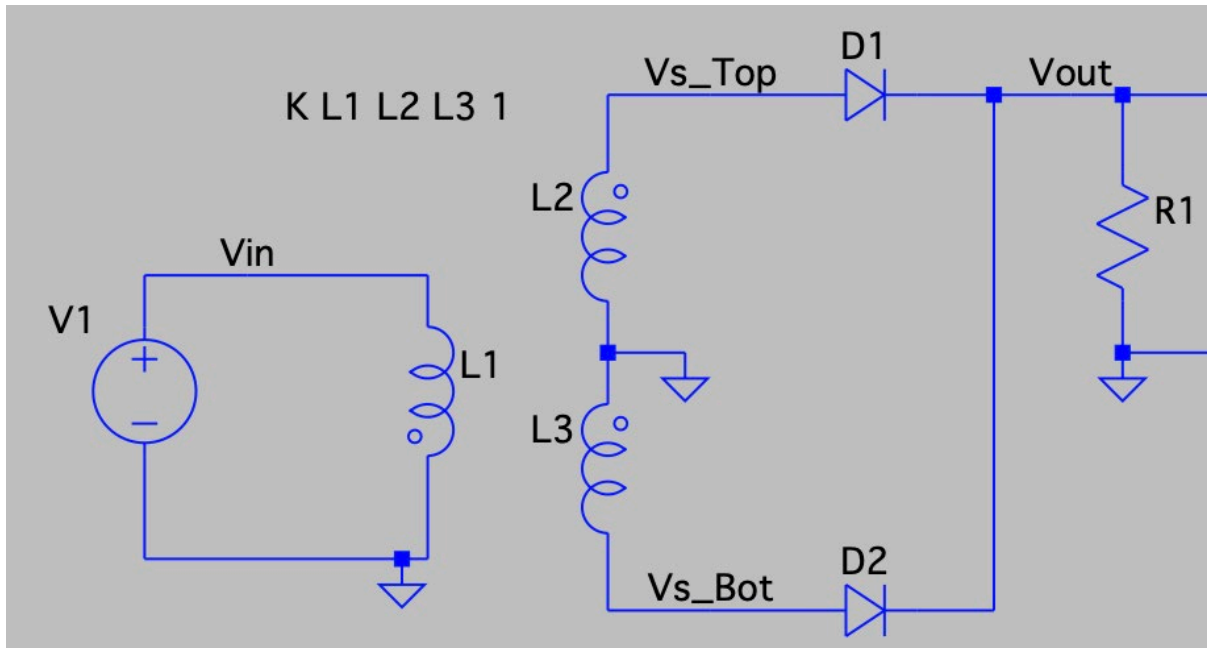

Figure 5. Full wave rectifier
- (1) Draw the schematic for the full wave rectifier in Figure 5 using ideal diodes and resistive load $R1 = 50\ \Omega$. Label the source voltage Vs_Top and Vs_Bot so as to measure the voltages across the two secondary coils. Pick the values of $L1$ of the transformer to be 144mH and use 1mH for $L2$ and $L3$.